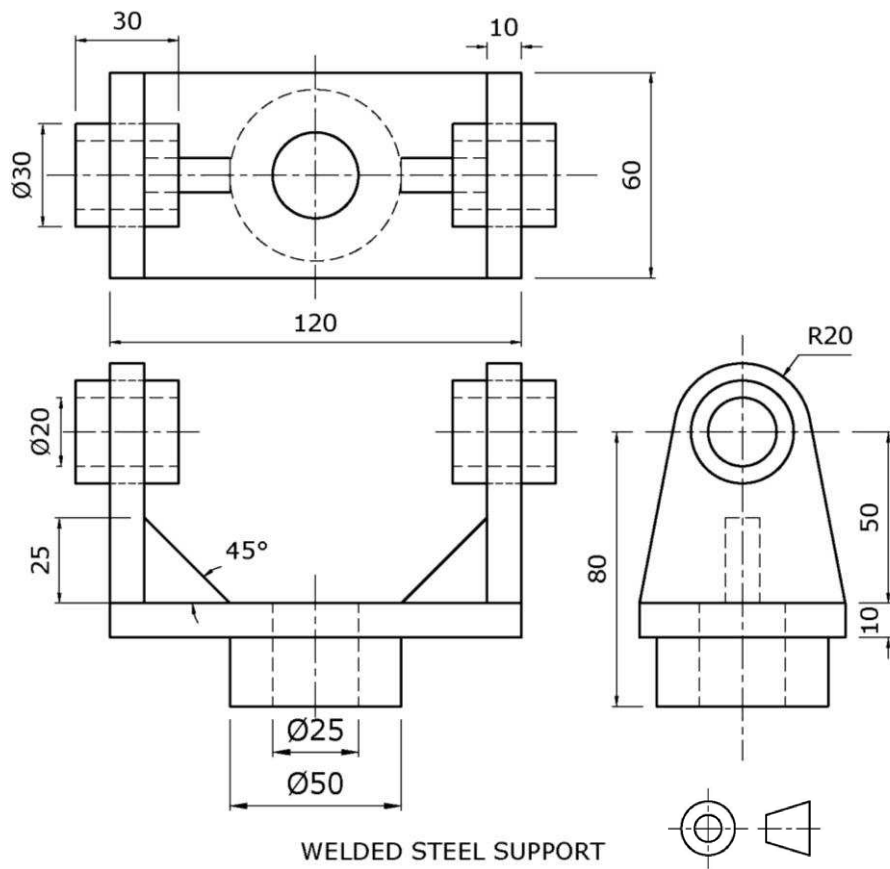
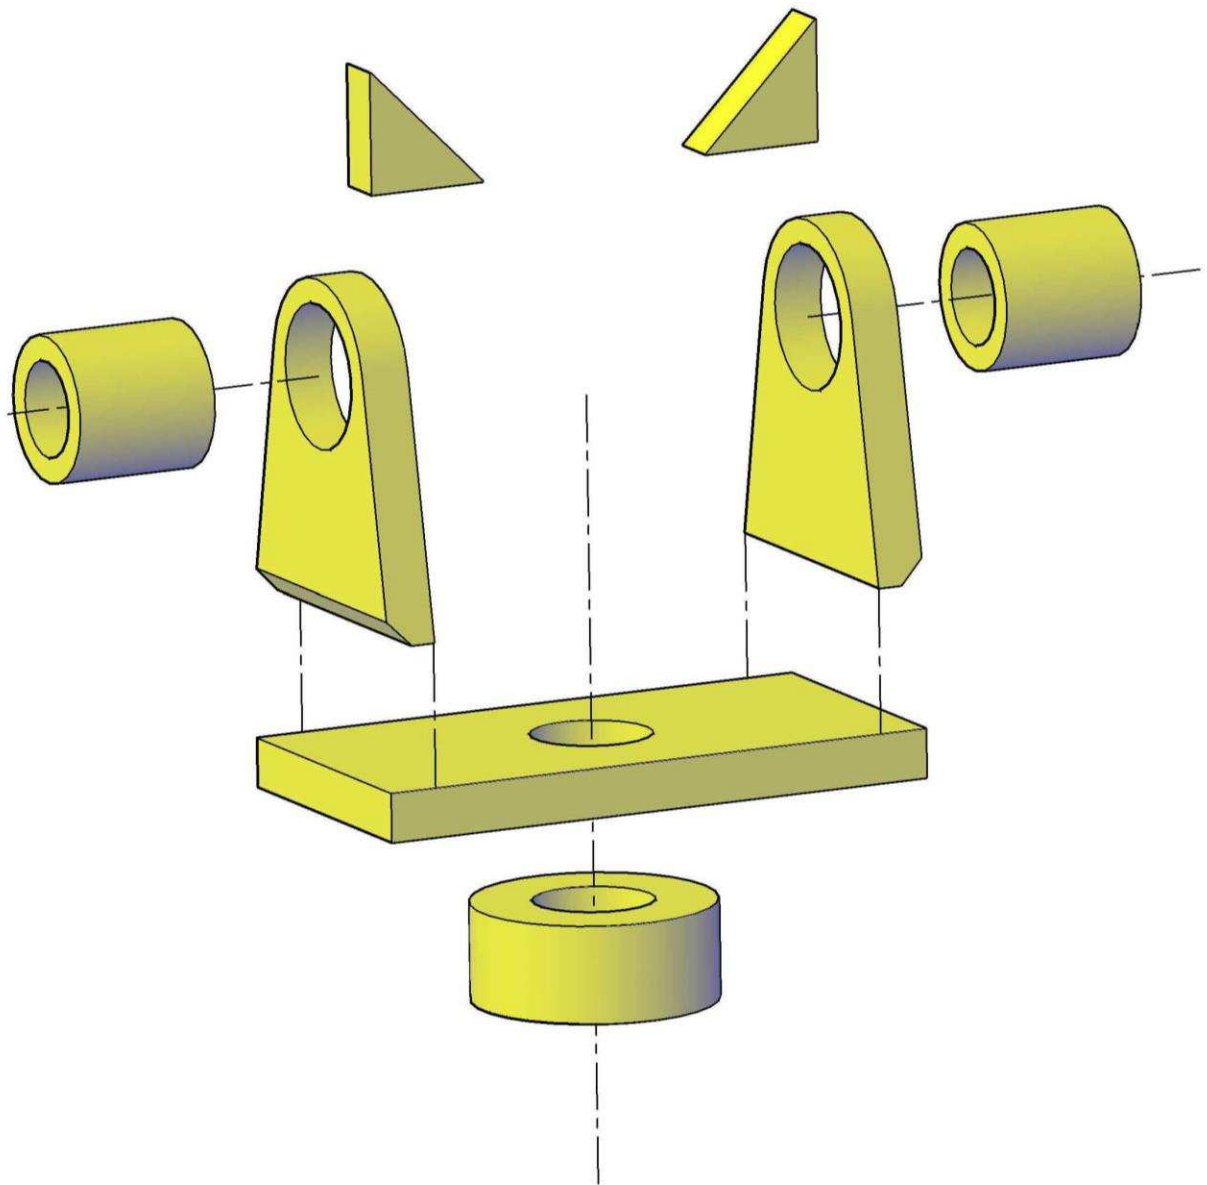

Figure 3c
Figure 3d
d) Orthographic views of a wheel steel shaft support are shown in Figure 3c. The support is to be fabricated from the items shown in Figure 3d. Copy the left-hand half of the front view and include on this view suitable proper welding symbols. (7)